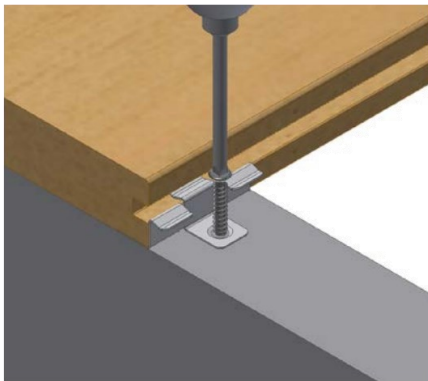

Figure 8
2) Pre-drill the joist then fix the clips with screws (Figure 8—9)